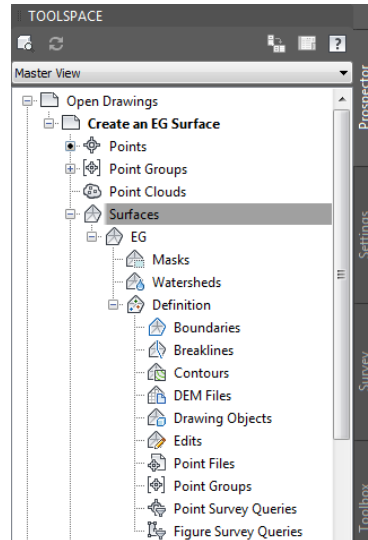

FIGURE 4.3 The contents of a surface shown in Prospector
5. In Prospector, expand Surfaces > EG > Definition. Study the items listed beneath EG in the tree (see Figure 4.3).
As shown in Figure 4.3, you can use many potential types of information to create a surface and control its shape. The following list describes each one briefly: